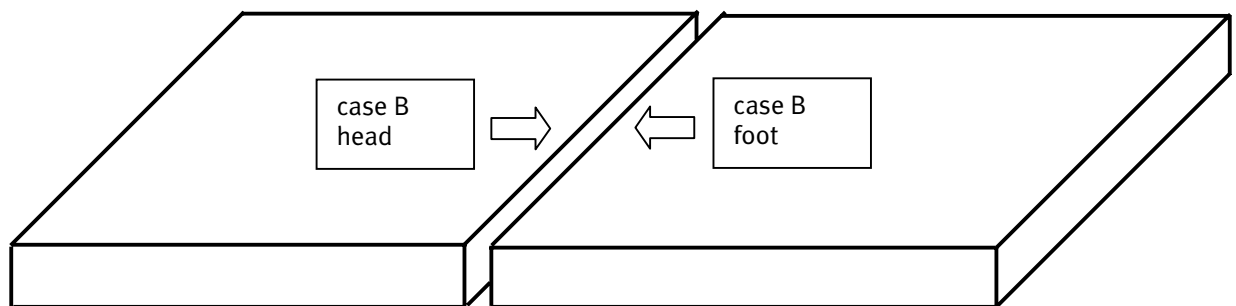

Figure 1
- Lay the “B” cases (check that the serial numbers are the same) on the floor with the opposing arrows pointing towards each other. The head and foot sections must be in the position in which the bed is to stand (see Figure 1).